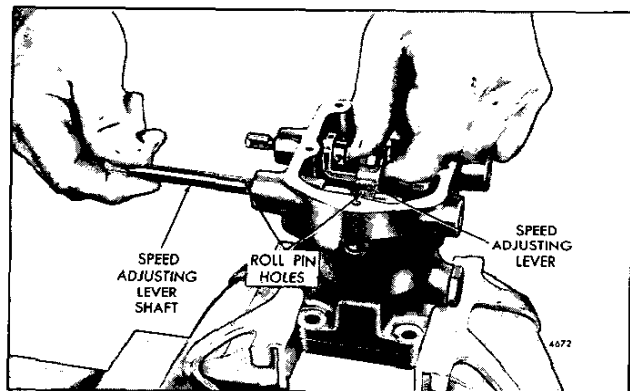

Fig. 16 - Installing Speed Adjusting Lever Shaft in Governor Housing and Adjusting Lever
- b. Lubricate the speed adjusting lever shaft with engine oil. Rotate the shaft so the machined slot in the outside diameter of the shaft is in the same position it was in at the time of removal. Then insert the shaft in the shaft bushing in the housing, from the oil inlet plug side, with the roll pin hole in the shaft and lever in alignment (Fig. 16).